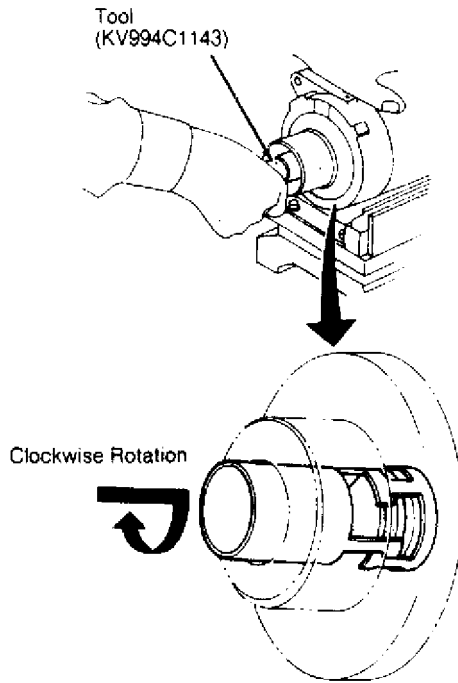

Fig. 9: Hitachi 6-Cylinder Compressor Shaft Seal Removal
4) Insert shaft seal Remover/Installer (KV994C1143) through the open end of front cover. Depress carbon seal and hook tool at case projection of shaft seal. Slowly pull out to remove shaft seal. See Fig. 9.